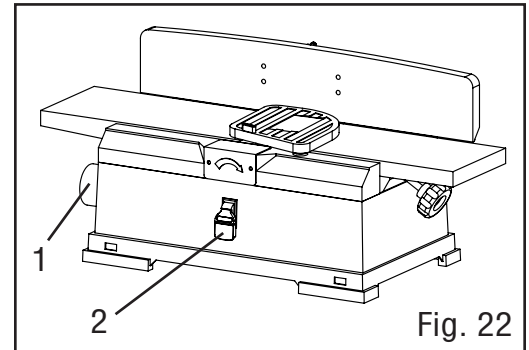

Fig. 22
2. Attach the dust collection hose to the dust port (Fig. 22 - 1).
The ON/OFF switch (Fig. 22 - 2) is located on the front of the jointer.